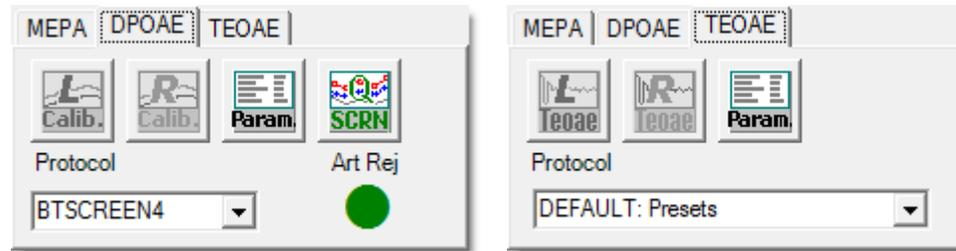

Figure 1.39: The DPOAE and TEOAE toolbars.
8. Select the desired test ear from the DP or TE toolbar to begin. For DPs, from the DP toolbar, choose either the **L-Calib** or **R-Calib** button to measure the left or right ear, respectively (see Figure 1.39(a)). For TEs, from the TE toolbar, choose either the **L-TEOAE** or **R-TEOAE** button to measure the left or right ear, respectively (see Figure 1.39(b)).